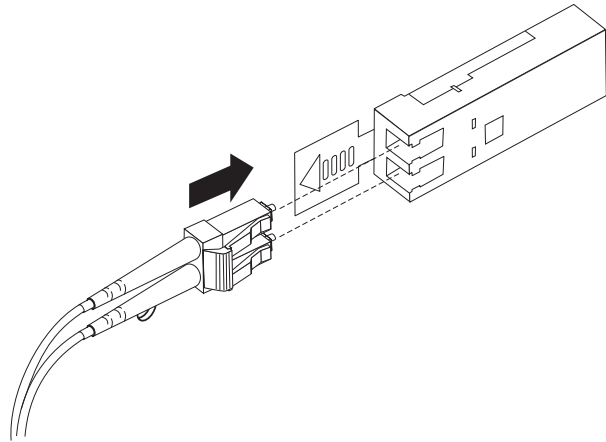

Figure 29. Inserting an LC-LC fibre-channel cable into an SFP module
4. Carefully insert this end of the LC-LC cable into an SFP module that is installed in the EXP810. The cable connector is keyed to ensure it is inserted into the SFP module correctly. Holding the connector, push in the cable until it clicks into place, as shown in Figure 29 on page 46.